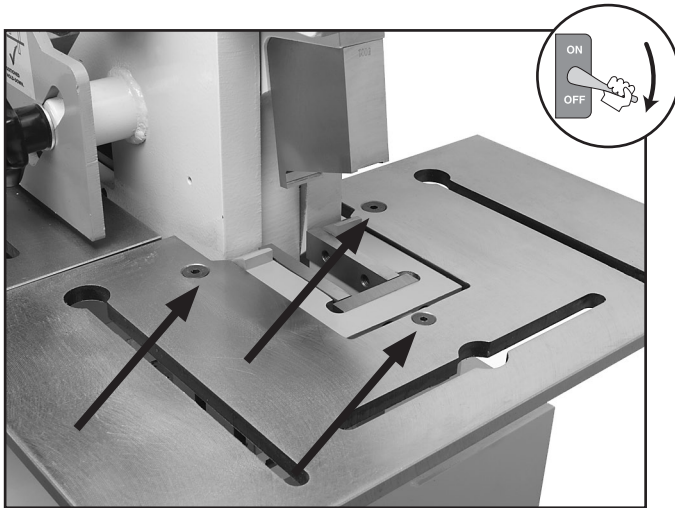

Figure 26. Flat head cap screws that secure the notching table.
- Remove the table guides, unthread the three flat head cap screws securing the notching table (see **Figure 26**), then remove the table.